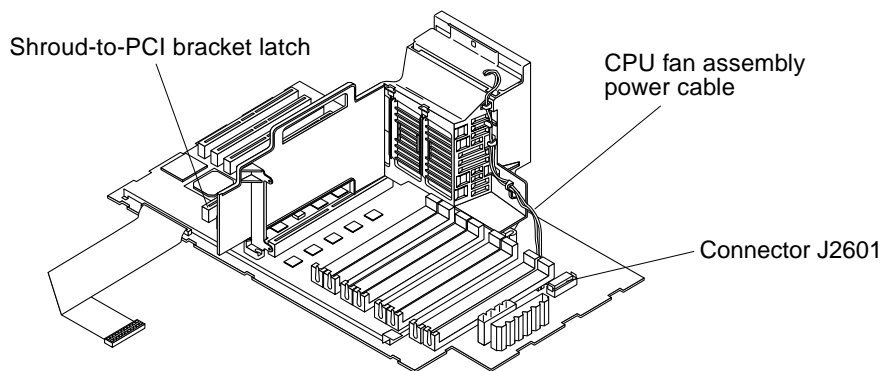
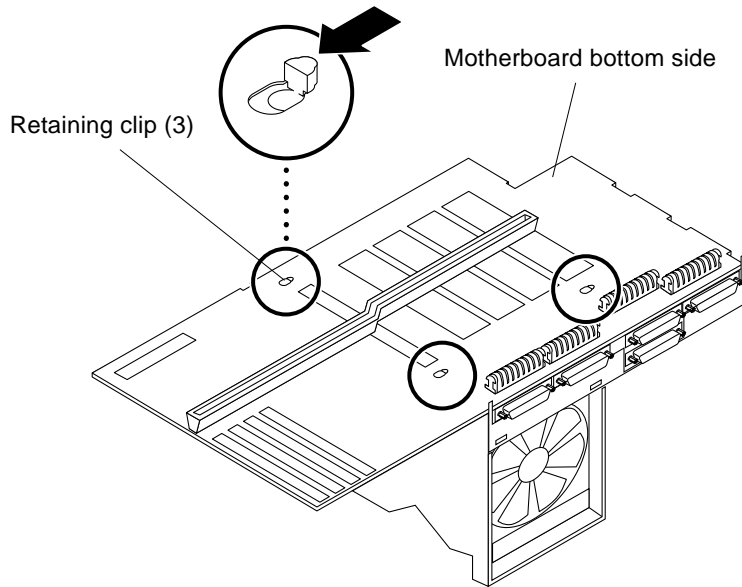

FIGURE 8-11 Removing and Replacing the One-Piece Shroud Assembly (Part 1 of 2)
FIGURE 8-12 Removing and Replacing the One-Piece Shroud Assembly (Part 2 of 2)
3. Disconnect the one-piece shroud assembly from the motherboard as follows (FIGURE 8-11 and FIGURE 8-12):
- b. Secure each shroud assembly retaining clip by pressing down on the motherboard around the area of each retaining clip (FIGURE 8-12).
(FIGURE 8-11).